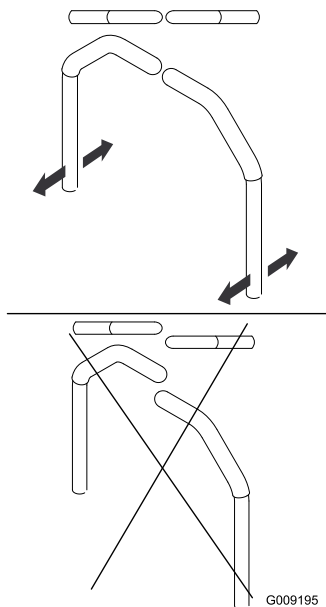

Figure 84
4. Align the levers front to rear position by bring the levers together to the neutral position and slide them until they are aligned, then tighten the bolts (Figure 84).